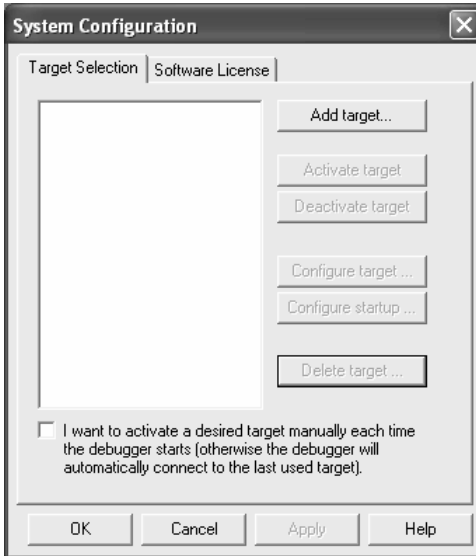

FIGURE 2 Creating a target in the debugger.
3. Start Chameleon Debugger and click the **Add Target** button in the System Configuration window (Figure 2).